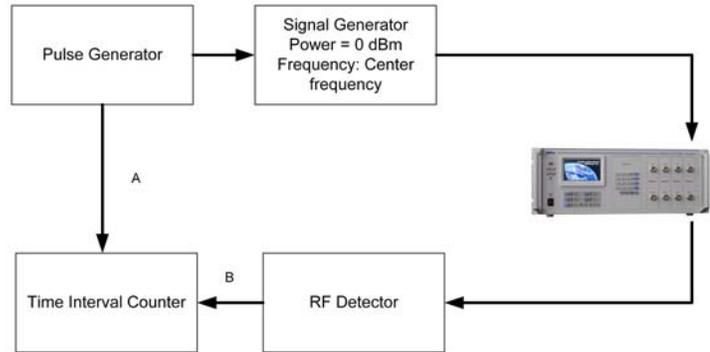

Figure A-2 Delay Test Configuration
1. Connect the SLE900 and testing equipment as shown in Figure A-2.